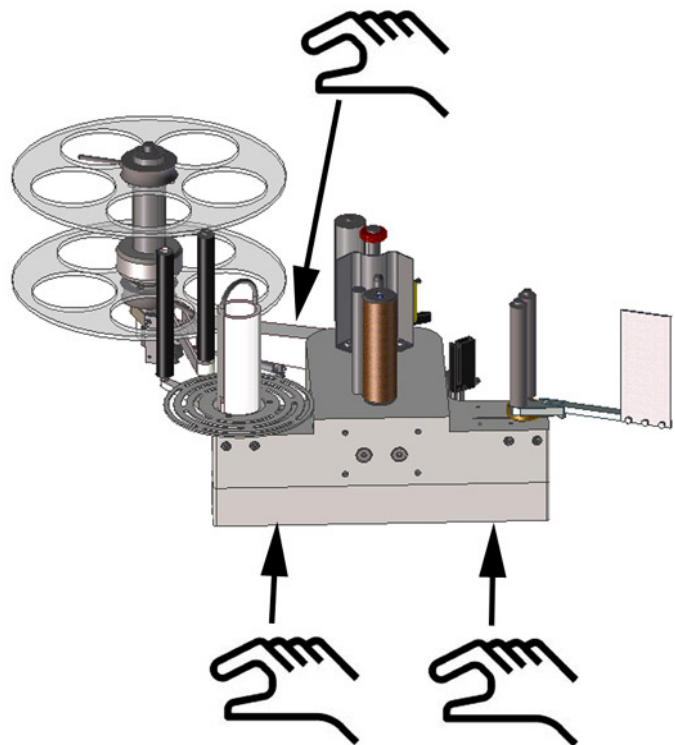

Fig. 5-3: Lifting Alpha Compact
- 6** Lift the system with at least two persons at the base plate and the rewinder (cp. **Fig. 5-3**) out of the packaging and move it with the backside to a stable support. Systems with optional stand mounting can be touched there additionally.